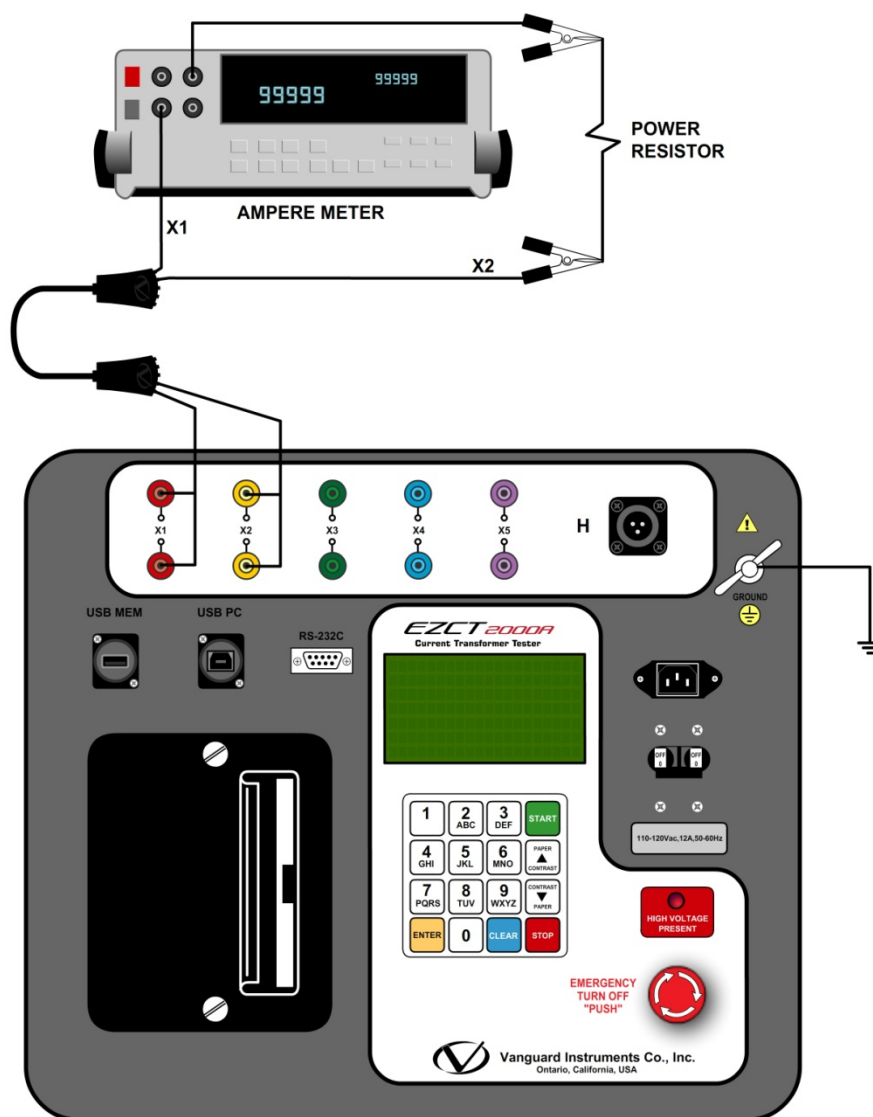

Figure 18. EZCT-2000A I_x Verification Test Connections
- Connect the X cables to a power resistor and an RMS ampere meter as shown in Figure 18.